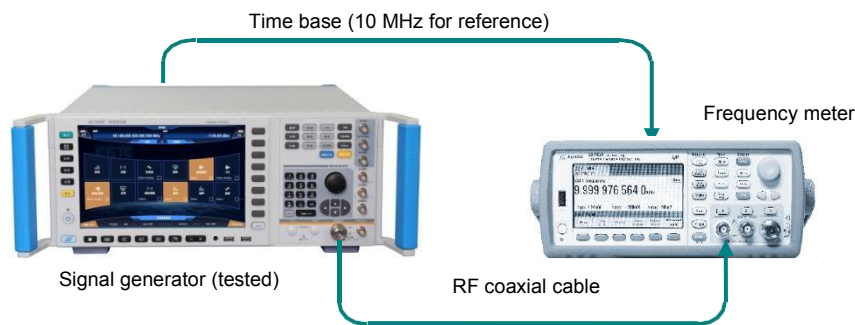

Fig.7.2 Frequency Resolution Test
Step 2. Connect the device as shown in Fig.7.2.